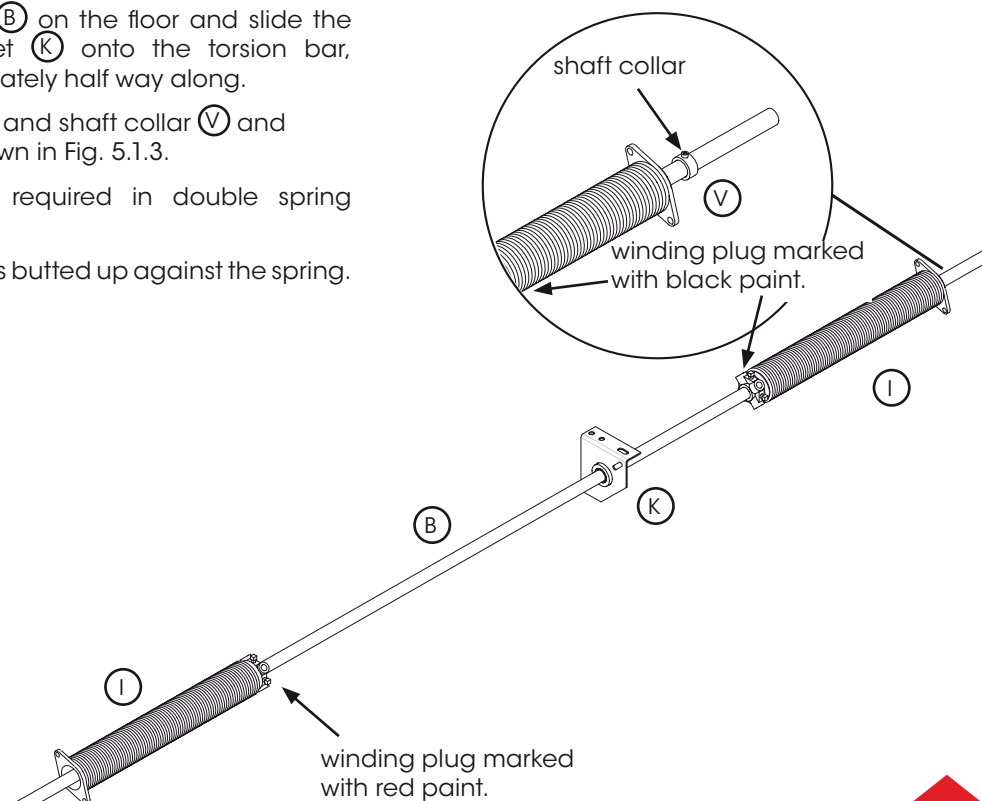

Fig: 5.1.3
The springs and drums for the counterbalance system are now colour coded to easily identify which side of the centre bracket the spring is placed. Fig. 5.1.3.
- Place the torsion bar (B) on the floor and slide the spring anchor bracket (K) onto the torsion bar, positioning it approximately half way along.
- Locate the spring/s (I) and shaft collar (V) and assemble them as shown in Fig. 5.1.3.